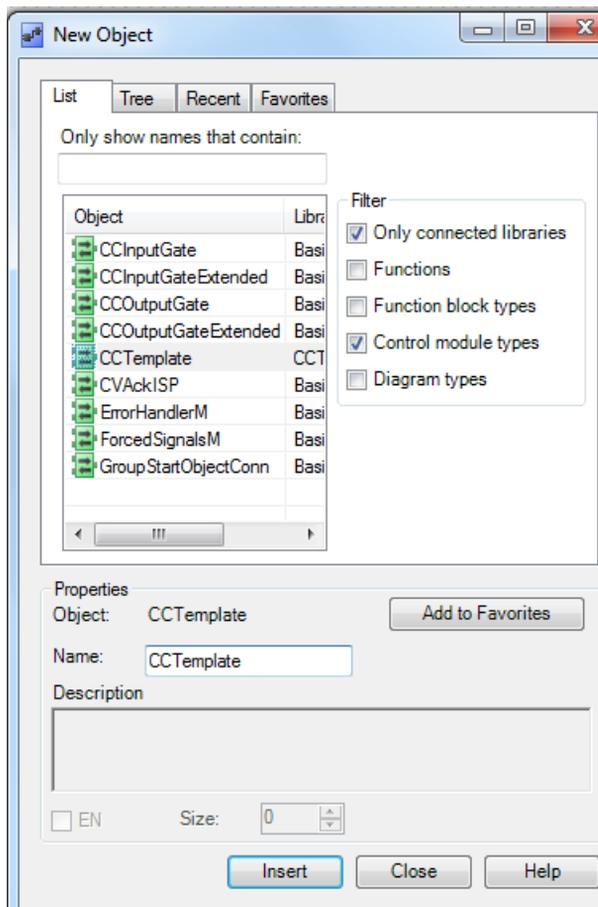

Figure 75. New Object dialog box
- b. In the New Object dialog box, select **CCTemplate** under the List tab. In the Name field, enter the name of the instance as *CCTemplate* (see Figure 75)